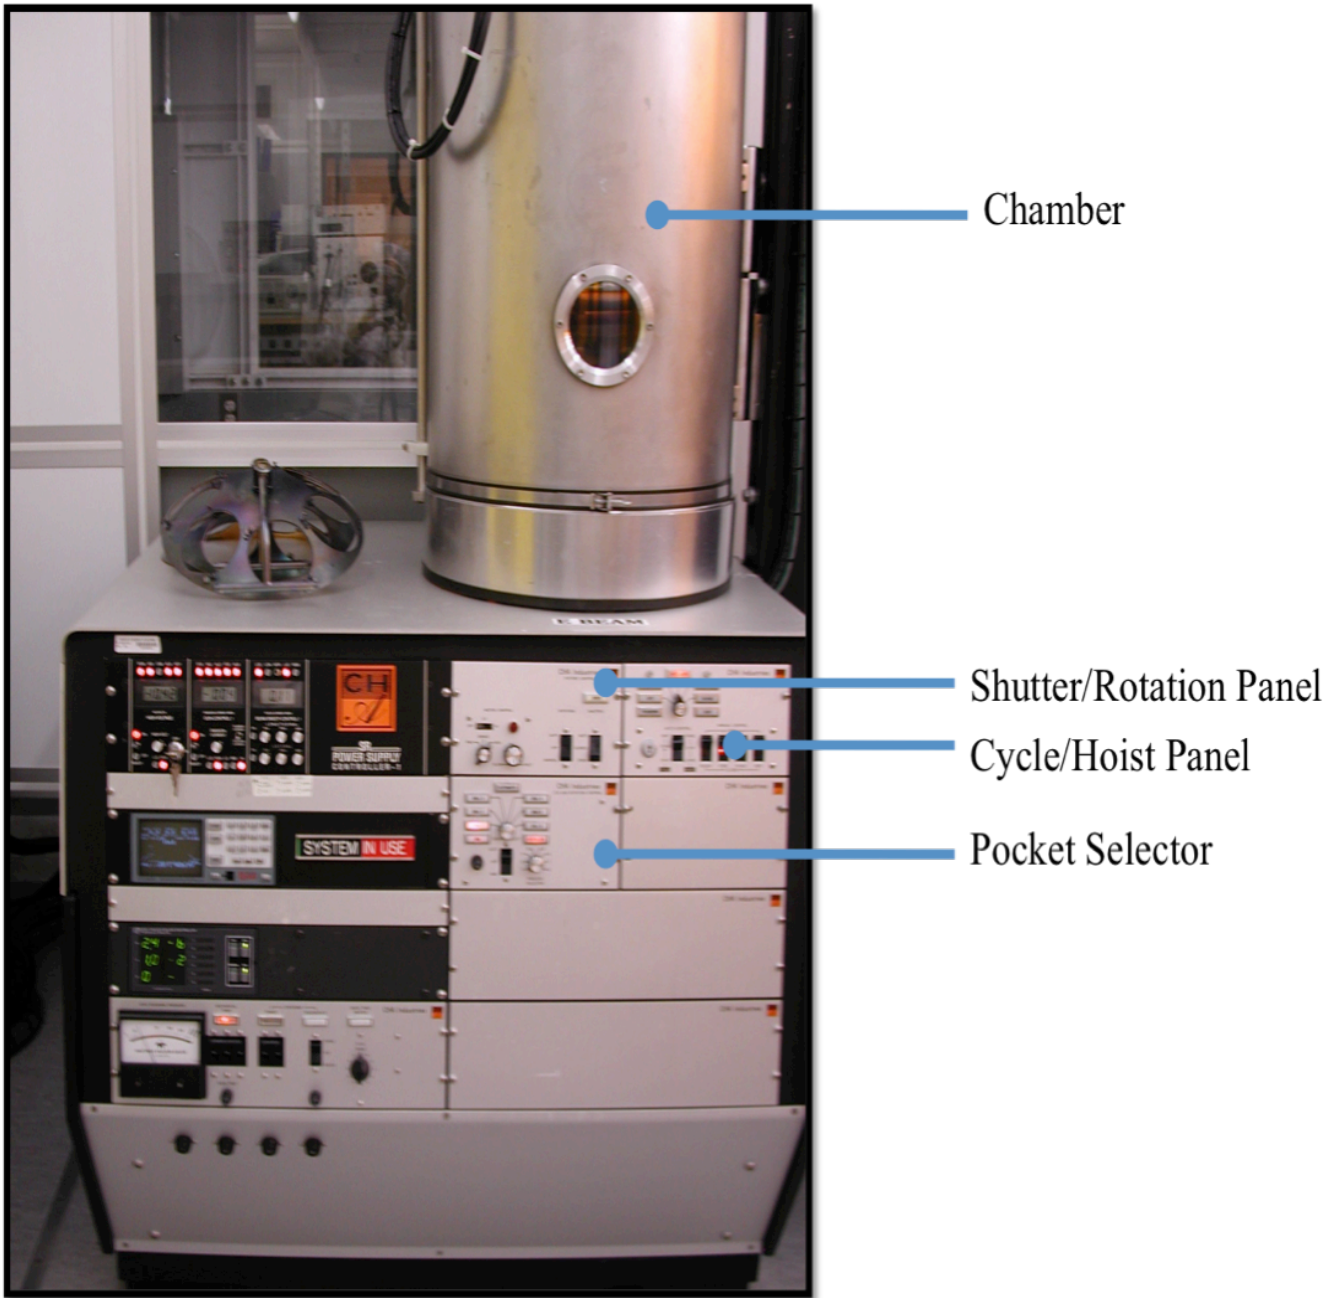

Figure 1: E-Beam Evaporator
2. See Appendix A: Figure 1 & 2 to get familiar with the switches and panel boards of the system.
2. Open the shutter (see Appendix A: figure 1)
Note: Process 1 is programmed to deposit 5000A of Aluminum, film #1, and should not be changed. To locate the program boards see Appendix A figure 1.